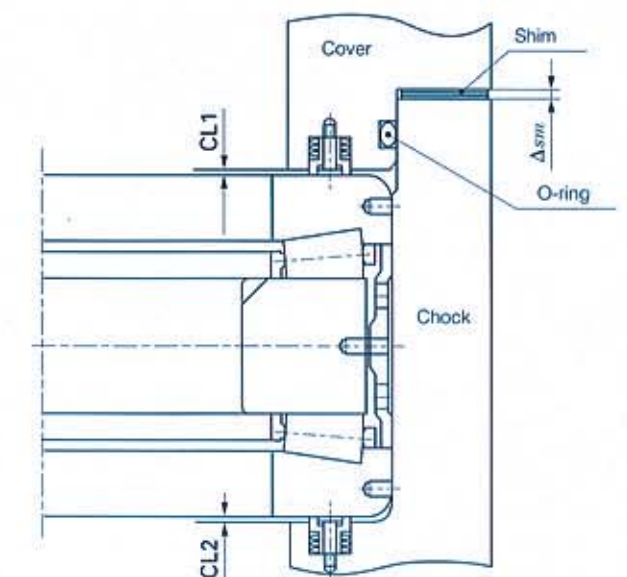

Fig. 3.45 Assembly with preload springs
- (7) Remove the lid and install the shim of set thickness (Δsm) on the lid.
- (8) Using a jig, remove the bearing from the chock, install the preload spring, and reassemble the bearing into the chock.
- (9) Mount the O-ring and spring to the lid and install the lid on the chock.
- (10) Tighten the lid bolts with an even torque.
- (11) After assembly, confirm that $CL1 + CL2 = 0.5\text{mm}$. (Fig. 3.45)